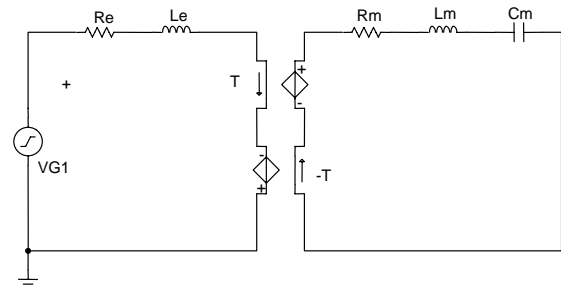

Figure 37: Equivalent circuit of CU18A for SPICE simulation.
** circuit shown in Figure 37 **
The CU18A may be modeled as an equivalent electrical circuit as shown in Figure 37, which includes the influence of the mechanical load. The first-order model can be input into any SPICE-type simulation application using the PSpice text file shown in Figure 38 to determine AC and transient responses from different loading conditions. DC analysis is not recommended for this type of equivalent circuit modeling.